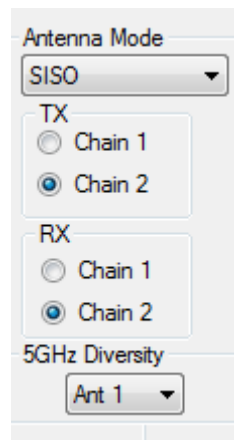

Figure 4-7. Antenna Mode Area of the RT³ Window
Figure 4-7 shows the Antenna Mode area, used to select the antenna mode. MIMO and SISO antenna configurations are available at the 20-MHz bandwidth.
2. In the Antenna Mode area of the main working window, select Ant 1 or Ant 2 (see Figure 4-7) from the 5GHz Diversity drop-down menu.